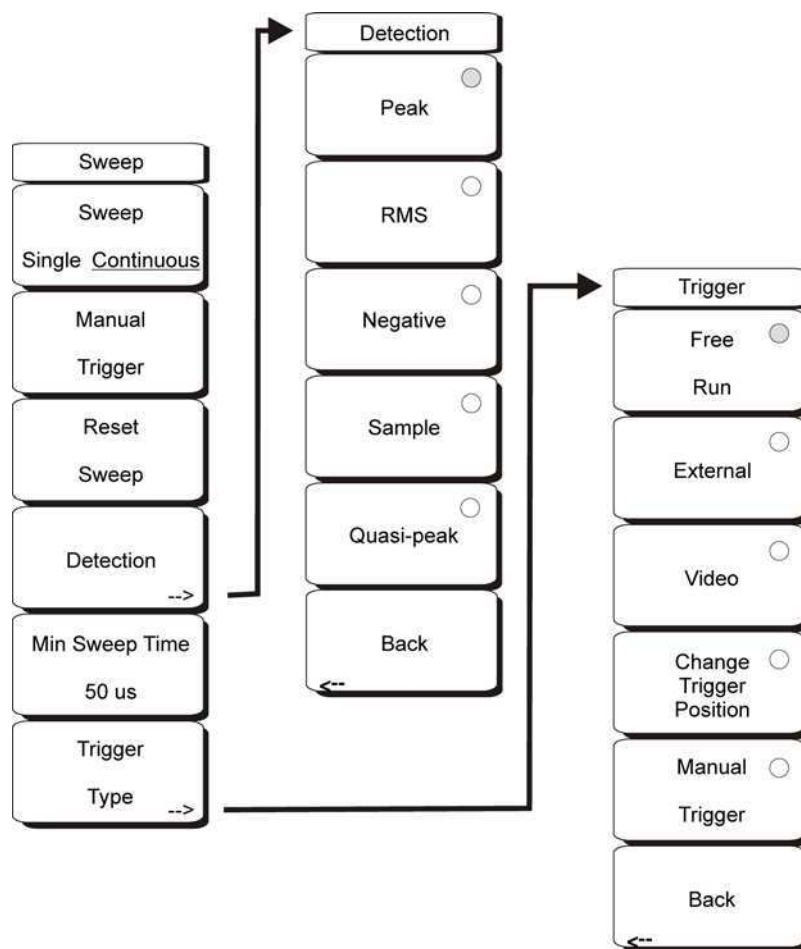

Figure 3-12. Sweep Menu Soft Keys
To access the functions under the Sweep menu, press the **Shift** key, then the **Sweep** (3) key. The Sweep menu soft keys are shown in Figure 3-12: